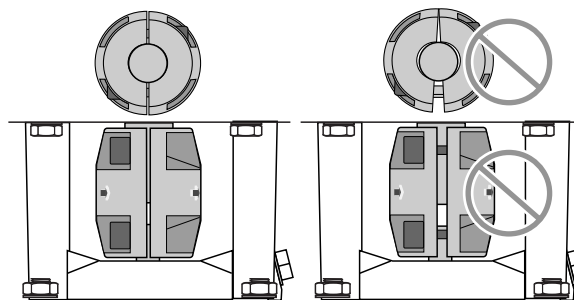

FIGURE 10A - Make Sure that the Coupling Halves are Evenly Tightened
15. Draw up the capscrews evenly so the gap between the coupling halves is equal on both sides (See Figure 10A).